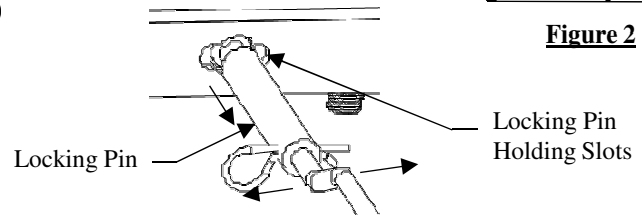
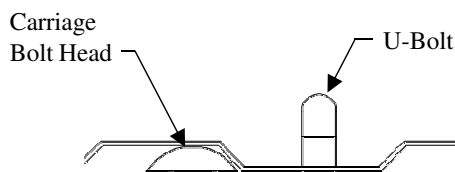

Figure 3
Figure 6
- 2B. After re-installing locking pin assembly, check for proper movement and holding slot engagement with the ball in place (see figure 3).
3. Install under bed supports with (4) vertical 5/8" bolts in rails.
- 5A. Use the (2) inner slots on forward side of head to drill 5/8" diameter holes up through truck bed. Make sure that holes go through the truck bed corrugation that is down so that head of carriage bolt is recessed below top of bed corrugation.
7. Using the U-Bolt slots as a guide, drill four 9/16" holes in the bed. These holes must be in a lower bed corrugations to limit the amount of U-bolt showing above the bed (see figure 6).